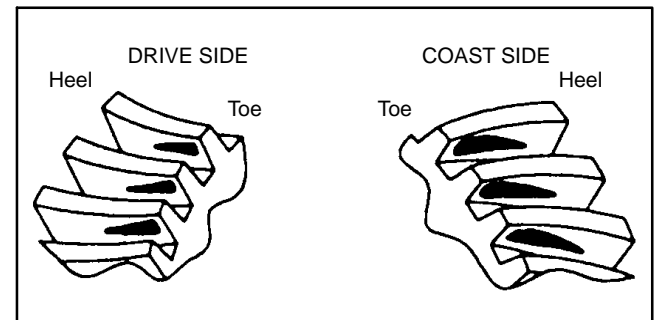

Figure 14
3. While applying a light load to the ring gear, rotate the pinion gear until the ring gear has made one complete revolution. The drive side pattern should be located at the toe portion of the tooth. The coast pattern should also be at the toe portion of the tooth (Fig. 14).